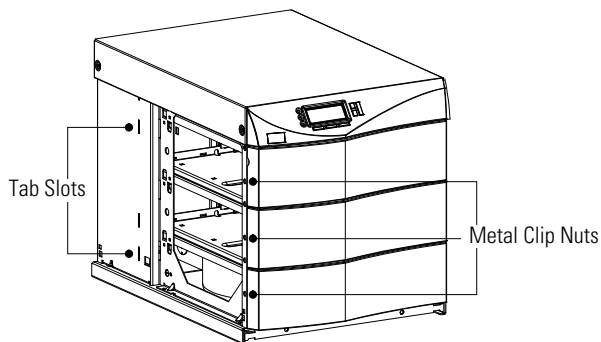

Figure 9. Metal Clip Nut and Tab Slot Locations
4. Install three metal clip nuts onto each side flange (six clip nuts on 6-slot cabinets) along the front of the UPS cabinet (see Figure 9).
Insert the two offset tabs on the rear edge of the ear into the matching tab slots on the cabinet side frame (see Figure 9). Pivot the ear forward until it is flush against the UPS cabinet side frame. Using three 1/4-20 × 1/2" Phillips-head bolts, screw the bolts into the metal clip nuts installed in Step 4.